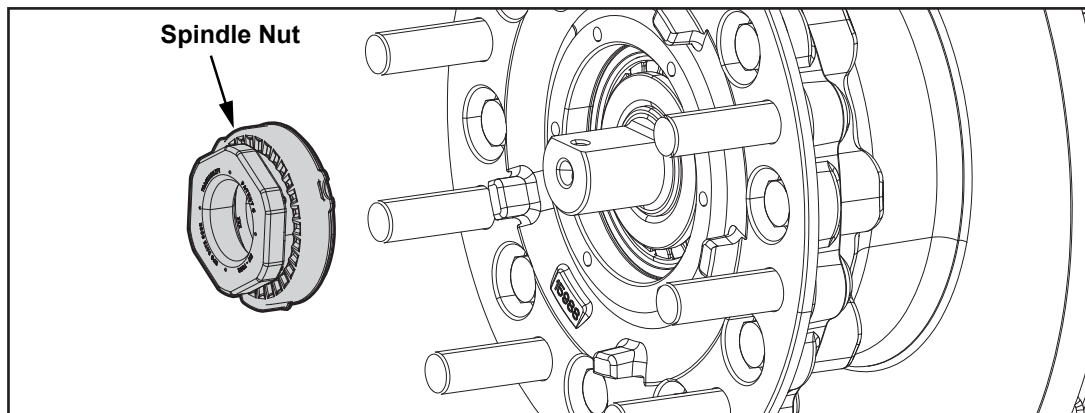

Figure 12
1. Tighten the spindle nut to 200 Lbs.-Ft of torque then rotate the wheel end assembly at least 1 full turn (*see Figure 12*).